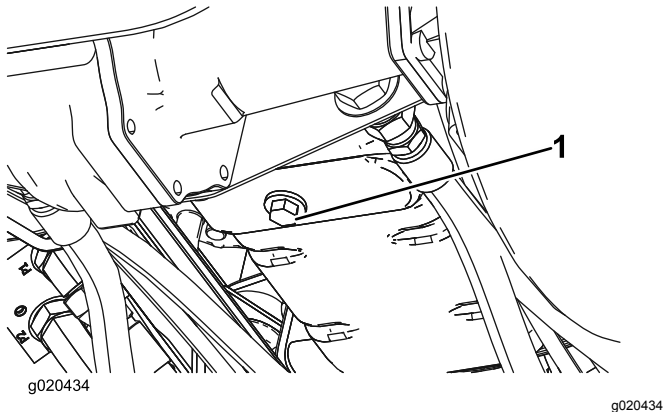

Figure 54
1. Remove the drain plug (Figure 54) and let the oil flow into a drain pan. When the oil stops, install the drain plug.